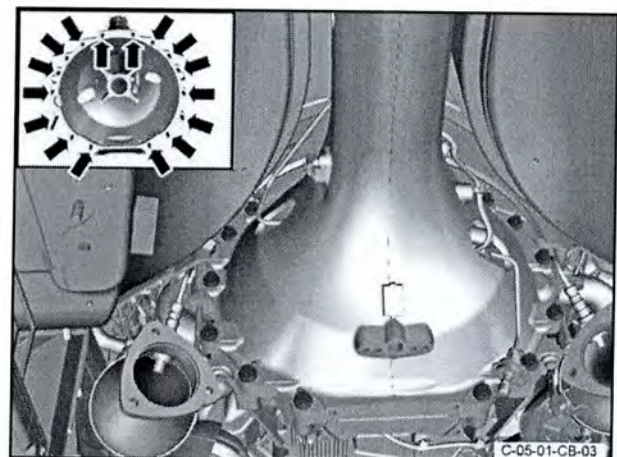

Figure 32
58. Remove the 16 bolts that attach the torque tube to the engine and remove the torque tube (refer to Figure 32).